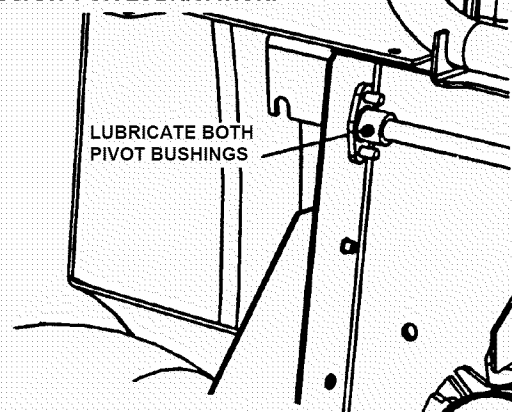

FIGURE 3.7
- e. Lubricate both pivot bushings with three shots general purpose grease from grease gun. See Figure 3.7.